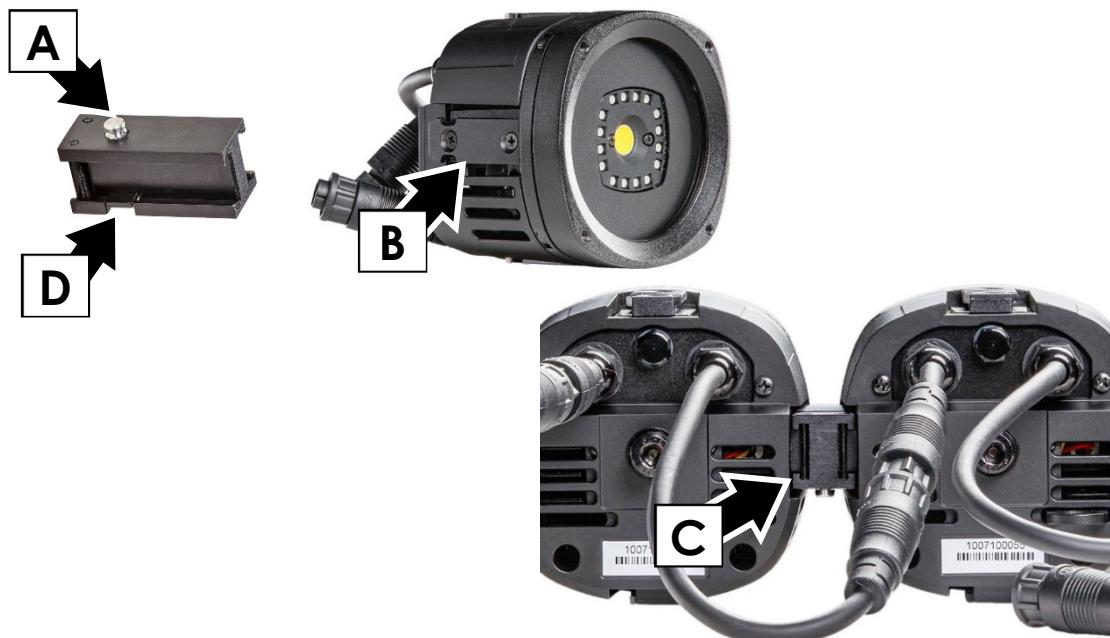

Figure 10. Fastening KNV Dots to each other using a GLP Slide Connector
2. See Figure 10. Push down on the locking button **A** on a GLP Slide Connector and slide the connector into the connector channels **B** on both Dots as shown at **C**.